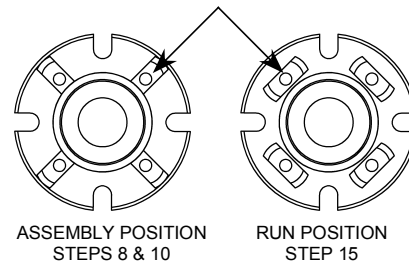
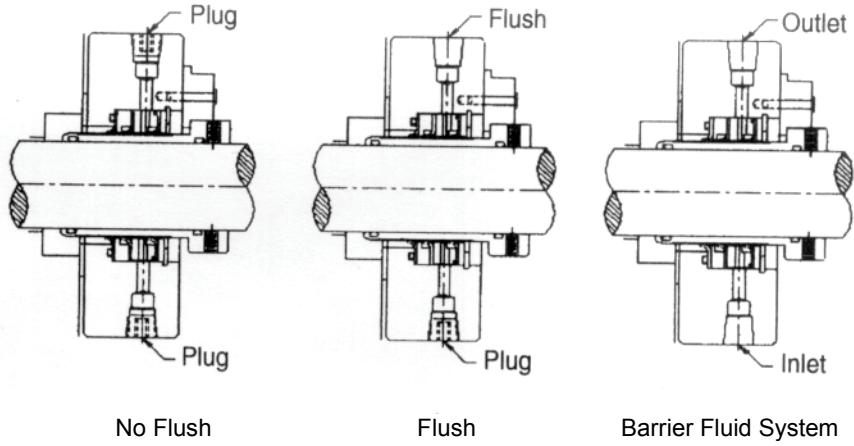

Figure 2
Figure 4
8. Check to insure all clip wings are positioned at 90° to the shaft and providing absolute centering of the drive collar. (221) (See Figure 2)
11. If an adjustment is required, loosen the gland capscrews (233) and move the seal slightly to achieve centering and re-tighten the gland capscrews (233).
13. Evenly tighten the gland capscrews (233) in a criss-cross pattern.
14. Rotate the clip wings 90° (See Figure 2)
15. Rotate shaft (13) to ensure the seal is in proper working order.
16. Install environmental controls or plug the flush ports. (See Figure 4)